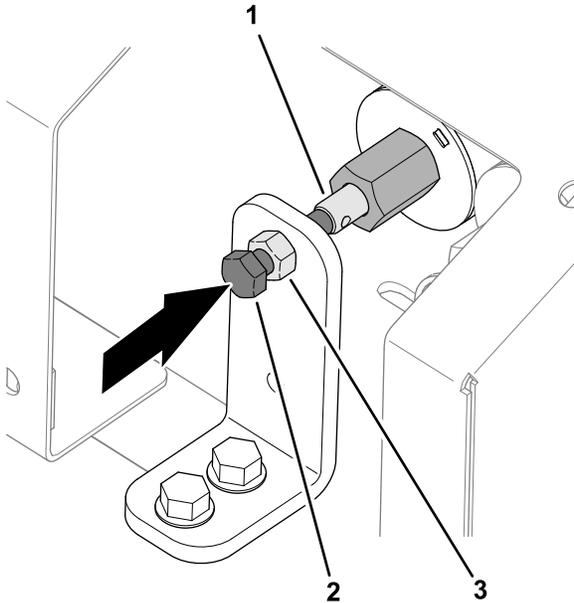

Figure 35
1. Loosen the jam nut at the manual-override bracket (Figure 35).
2. Rotate the hex-head screw for the valve override clockwise to increase the floor speed (Figure 35).